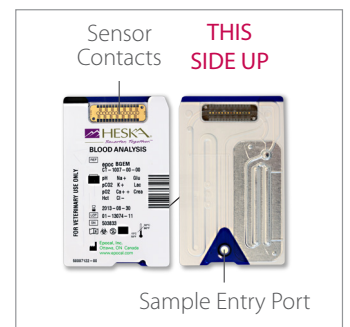

Figure 3
- Do not place Test Card on any surface after opening. Do not touch sensor contacts or sample entry port. (Figure 3) Ensure Test Card is free of animal hair or other debris which may interfere with analysis.